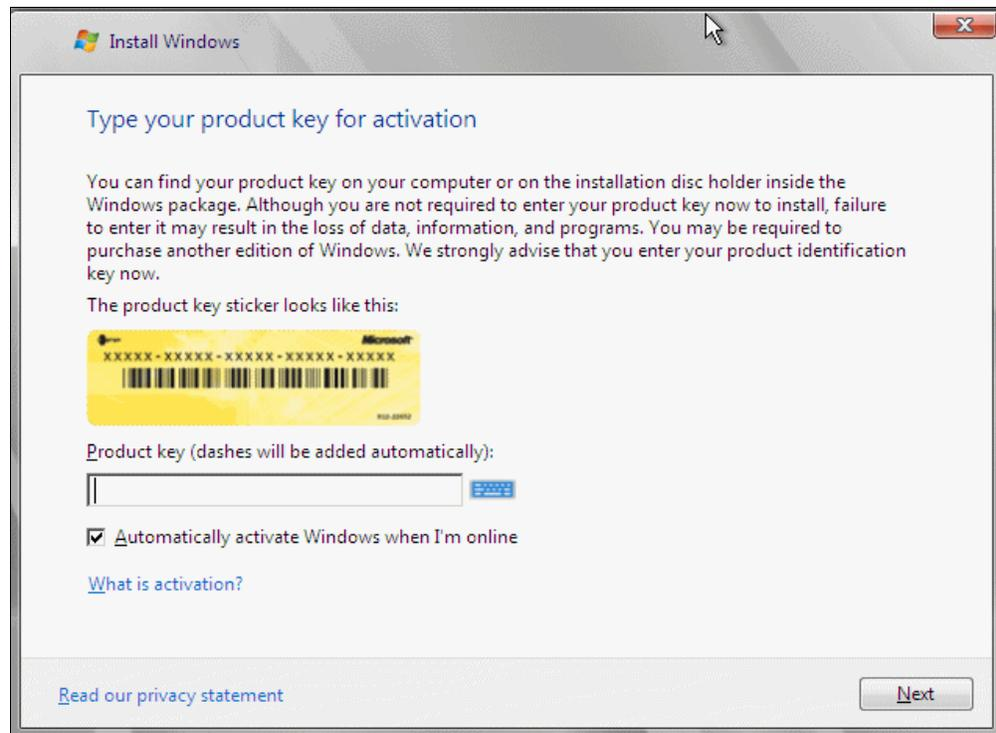

Figure 10-41 Entering the product key
4. Enter the product key and click **Next**, as shown in Figure 10-41.